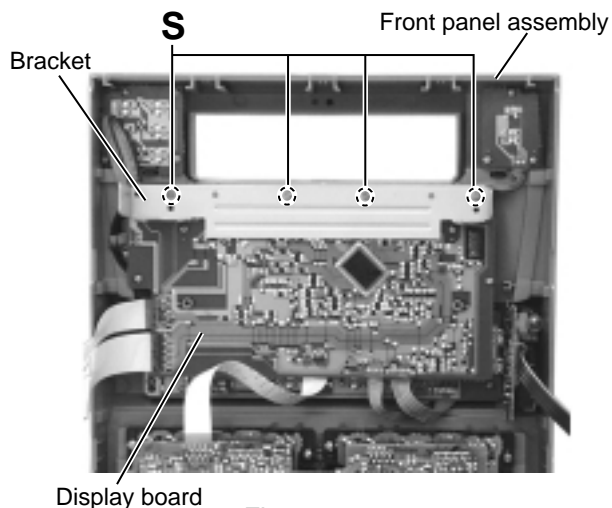

Fig.27
■ Removing the display board and the bracket (See Fig.27 and 28)